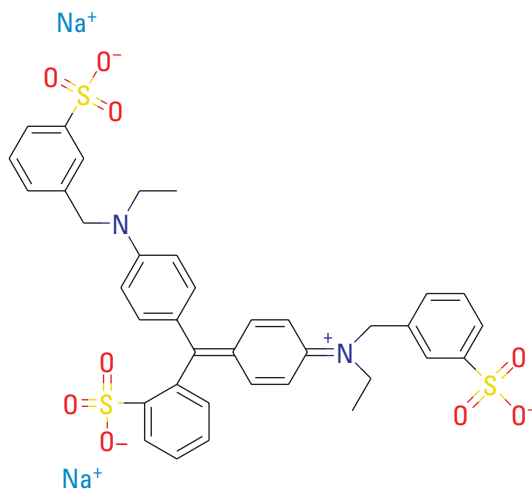

Figure 1. FD&C blue #1 (Brilliant Blue) molecule
Step 1: Your group will be given a known concentration or stock solution of the blue #1 dye (Brilliant Blue) molecule dissolved in water (see Figure 1). The blue #1 dye molecule is the only chemical species in solution. You will be measuring the percent transmittance of light through a solution containing only this chemical species.